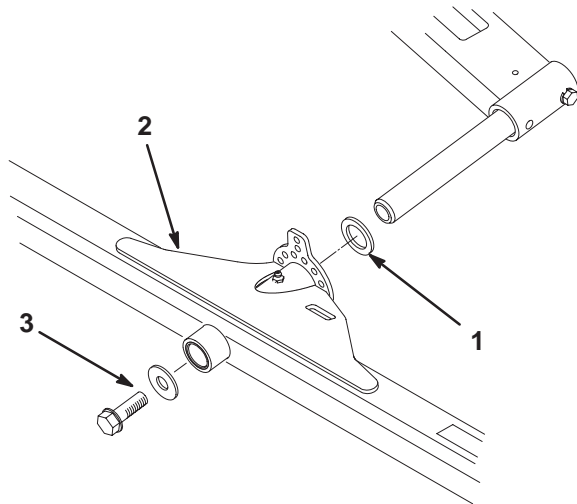

Figure 10
1. Slide a thrust washer onto the lift arm pivot rod (Fig. 10).
2. Slide the cutting unit carrier frame onto the pivot rod and secure it with a flat washer and flange head capscrew (Fig. 10).